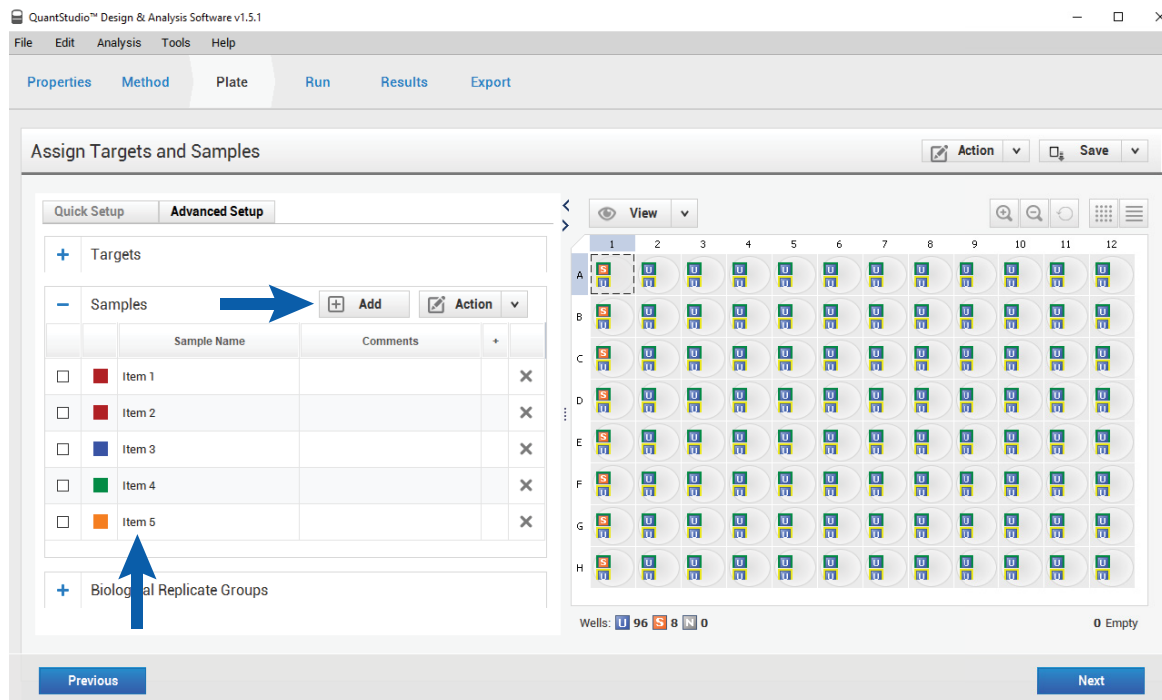

Figure 49. The 'Advanced Setup' tab in the 'Assign Targets and Samples' screen.
3. Enter the names of the DNA samples in the Samples section of the 'Advanced Setup' tab (Figure 49) by selecting **[+] Add** until the appropriate number of sample name lines are present. Type the name of each sample only once.